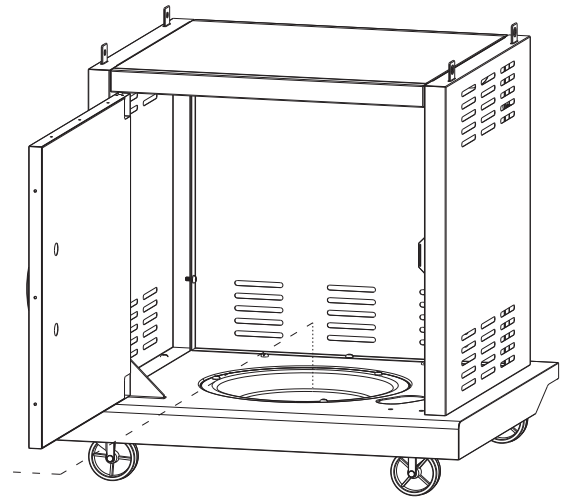

Fig.4
1. Open the doors of the cabinet. Place a 20 lb. (20 lb.) tank with foot ring into the tank tray. See Fig. 4. Make sure the tank valve is in the OFF position